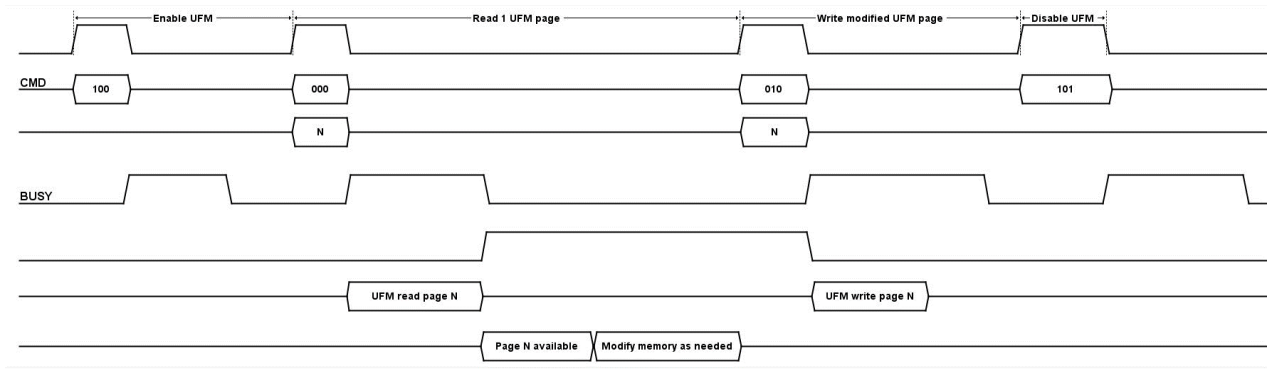

Figure 5.3. Read-Modify and Write Back to UFM Waveform Description
1. Enable UFM access (100) – Check for BUSY signal to be low and issue an enable UFM command on the CMD bus and issue a GO. BUSY signal is asserted once a GO is recognized.
2. Read 1 page (000) – Check for BUSY signal to be low, issue the Read 1 Page command on the CMD bus, UFM page address on the UFM_PAGE bus and issue a GO. Data read from the UFM will be loaded in the DPRAM and is available to read or edit once the BUSY signal goes low.
4. Write 1 page (010) – Once the data in the DPRAM has been modified or re-written, check for the BUSY signal to be low, issue the Write 1 Page command on the CMD bus, set the UFM page address on the UFM_PAGE bus and issue a GO. Note that UFM page address must be specified for both read and write.
5. Repeat steps 2 through 4 until all desired pages have been modified. Figure 5.3. illustrates steps 2 through 4.
6. Disable UFM access (101) – Check for the BUSY signal to be low and issue a disable UFM command on the CMD bus and issue a GO. BUSY signal is asserted once a GO is recognized.